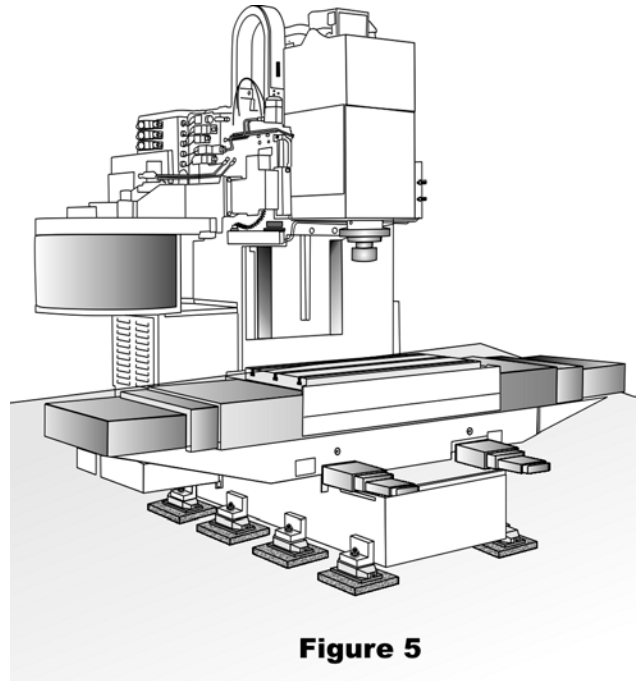

Figure 5
3. Lower the machine onto the DK Anchors. See Figure 5.